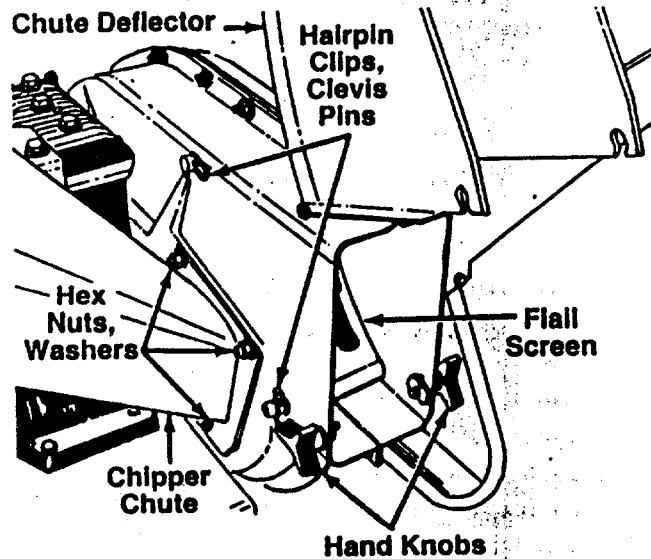

Fig. 2
9. Re-install the flail screen making certain the curved side is down. See figure 2.